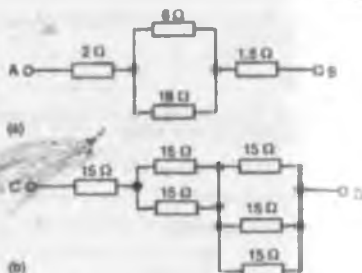

Figure 5.30
- 4 Find the total resistance between terminals A and B of the circuit shown in Fig. 5.30(a)
- 5 Find the equivalent resistance between terminals C and D of the circuit shown in Fig. 5.30(b)